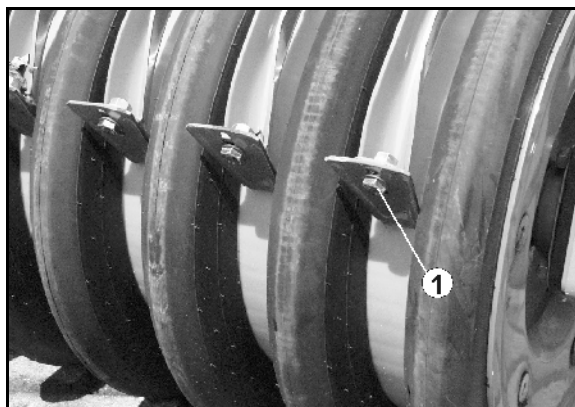

Fig. 26
2. Release the screw (Fig. 26/1) below the scraper.